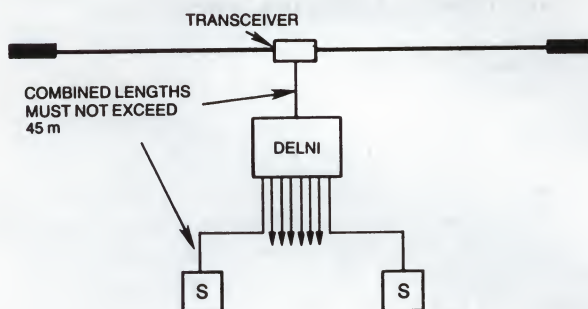

Figure A-9 ■ DELNI on a Standard Ethernet Coaxial Cable
- When a DELNI is installed between a transceiver and a station (see Figure A-9), the combined lengths of the transceiver cable between the transceiver and the DELNI and between the DELNI and the station must not exceed 45 meters (148 feet). (The DELNI consumes 5 meters of the usual cable allowance of 50 meters.) The maximum allowable length of transceiver cable depends on the station type. Refer to the *DECconnect System Planning and Configuration Guide* for full details.